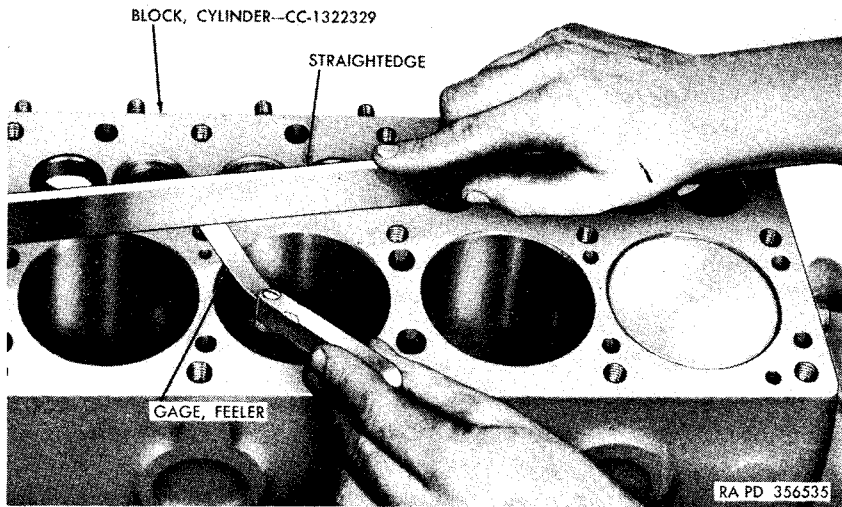

Figure 42. Checking cylinder block gasket surface.
- (3) *Inspect gasket surfaces of cylinder block and head.* Lay a straightedge across and lengthwise of the gasket surfaces of the cylinder block (fig. 42). With a 0.008-in. feeler gage, check for the low spots in the surface around the combustion chambers. If the feeler gage can be passed between the straightedge and the top surface of the cylinder block, resurface the part until it is just flat. Do not remove more than 0.010 inch, as metal removed from the gasket surface alters the compression ratio of the engine. Also lay a